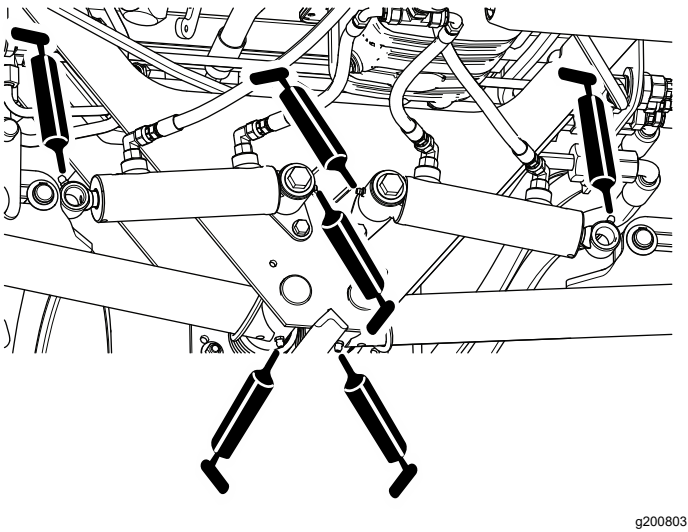

Figure 50
- Rear lift-arm pivots and lift cylinders (4 each); refer to Figure 50.